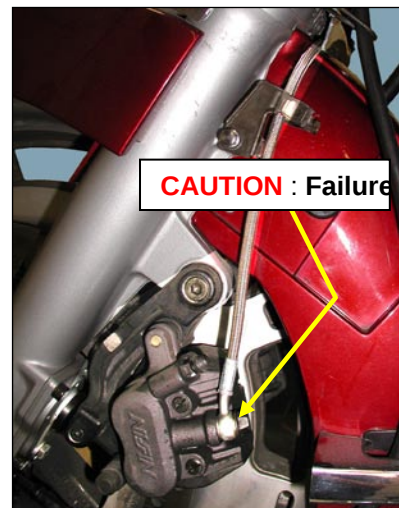

Figure 8
- Remove banjo bolt and brake line (feed from rear master cylinder) from left front caliper. Retain banjo bolt for reuse. Remove brake line from fork tube holder and secure line away from immediate work area (this line will not be reinstalled). Figure 8
- Install braided cross-over line (24.5" L) with supplied crush washers and OEM banjo bolt to left front caliper. Route line through now vacant fork tube holder, over fender to right side of vehicle. Figure 8